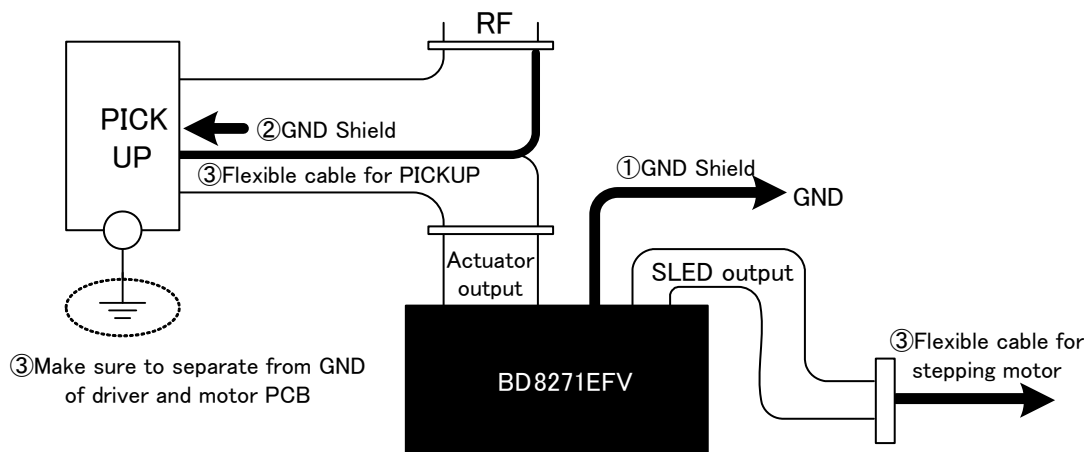

Figure 10. Countermeasure for RF Noise
2. Countermeasures against B (Refer to Figure 10)